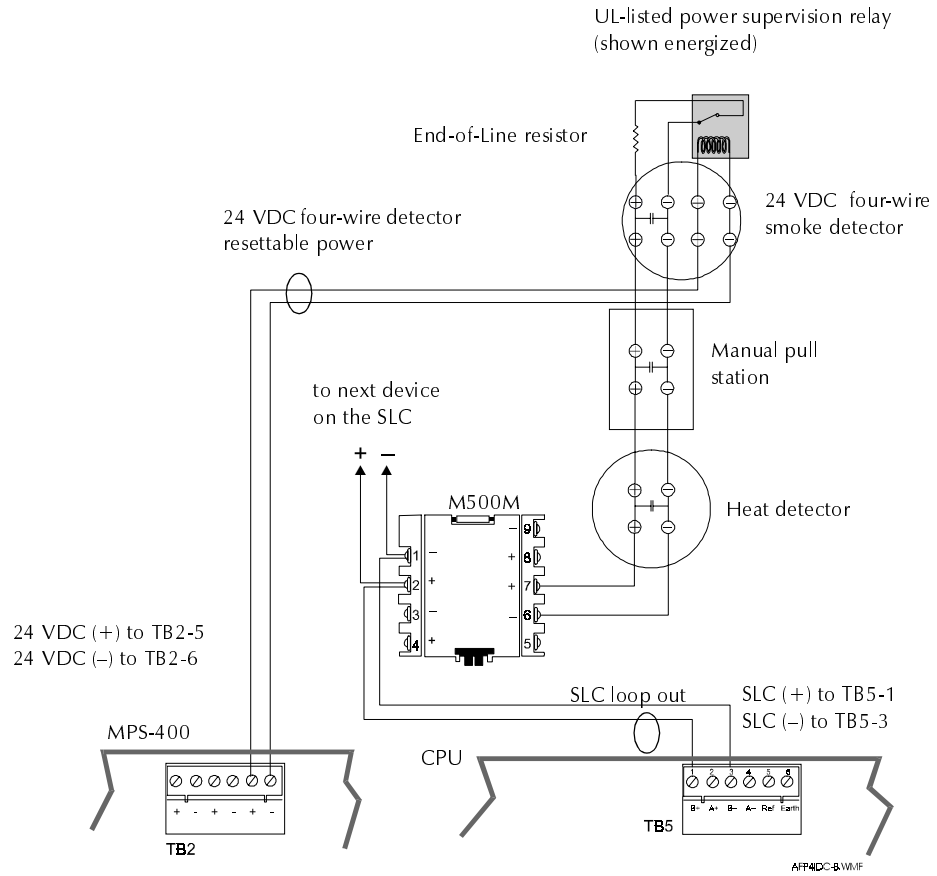
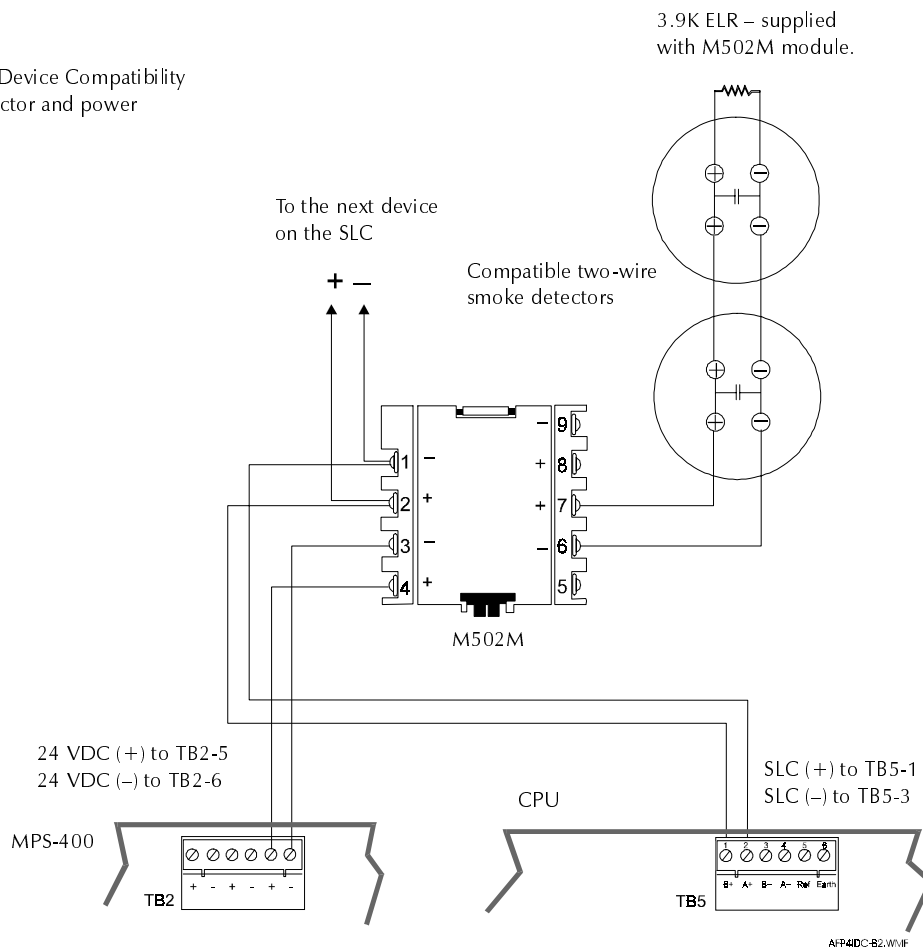

Figure 2-68 Typical Style B (Class B) IDC Wiring with M500Ms
Figure 2-69 Typical Style B (Class B) IDC Wiring with M502Ms
- NFPA Style B Initiating Device Circuit – see Figure 2-68 and Figure 2-69.
Figure 2-68 shows typical wiring using M500M modules to wire a Style B IDC. Maximum IDC resistance is 20 ohms. Refer to the Device Compatibility Document for detector and power supervision relays.
Figure 2-69 shows typical wiring for a supervised and power-limited NFPA Style B IDC using M502M modules. For more information, refer to the M502M Installation Instructions, Document M500-03-00.